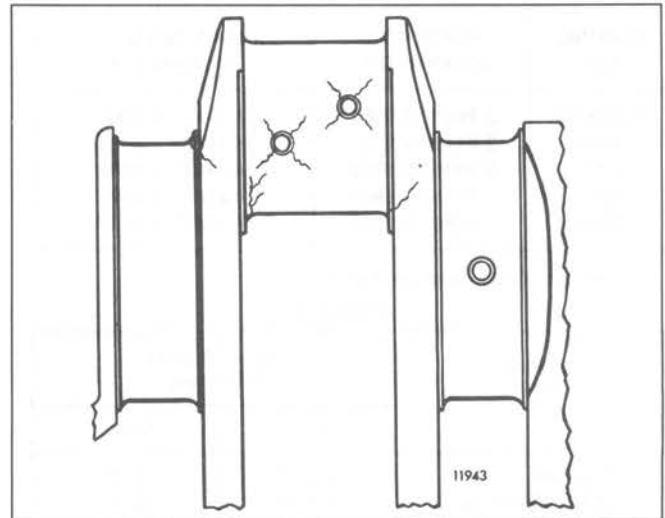

Fig. 8 – Crankshaft Fatigue Cracks
As previously mentioned, most of the indications found during inspection of the crankshaft are harmless. The two types of indications to look for are circumferential filletcracks at the critical areas and 45° cracks (45° with the axis of the shaft) starting from either the critical fillet locations or the connecting rod journal holes (Fig. 8). Replace the crankshaft when cracks of this nature are found.
If the effective length of the wrench (L) – (Fig. 8) is 22 inches and the adaptor (A) is 3" long, you should have a reading of 158 lb-ft (215 N•m) on the wrench to have the bolt tightened to 180 lb-ft (244 N•m) torque.